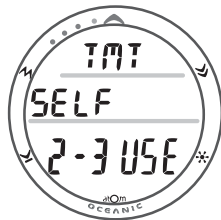

Fig. 107 - TMT 2-3 USE
- Pressing and holding the M button for 2 seconds while viewing a NORM DIVE MAIN screen will access the TMT 2-3 USE screen displaying the Set Point SELF (Fig. 107). If BUD is displayed, indicating that the ATOM is set for Checking Buddy Pressure, a Gas Switch cannot be made.